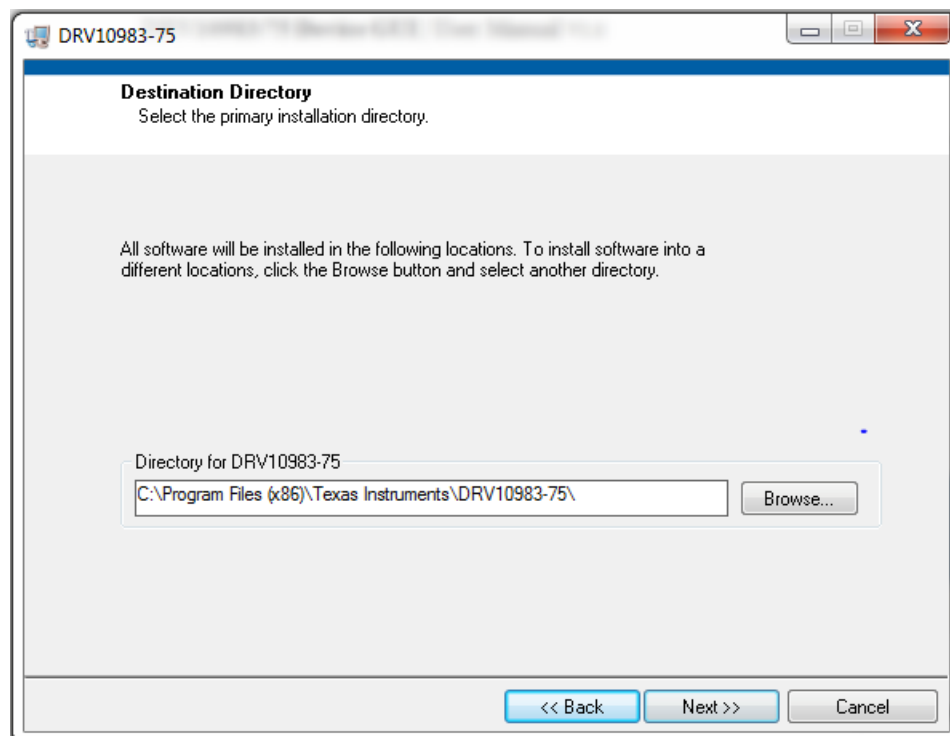

Figure 12. GUI Destination Directory
3. Set the destination directories for the GUI installation and press the *Next >>* button as shown in Figure 12. It is recommended to keep the default values as provided in the installer.